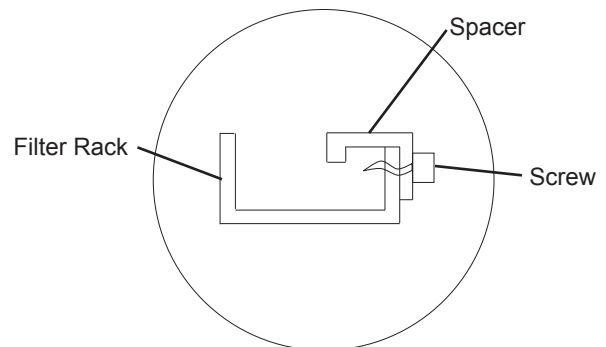

Fig. 2 - Filter Rack Detail
2. Install the top filter rack in the HVAC unit next to the indoor coil. Lift rack to the very top of the return chamber and screw rack into coil frame on both the left and right side. Be careful not to insert screws where coil damage could occur. If using 2" (50.8mm) filters remove filter spacer. Fig. 2.
3. Install the bottom filter rack in the HVAC unit next to the indoor coil. Filter rack will rest on the HVAC base and screw into the left and right side of the coil frame. Be careful not to insert screws where coil damage could occur. If using 2" (50.8mm) filters remove filter spacer on top bracket only. Fig. 2.